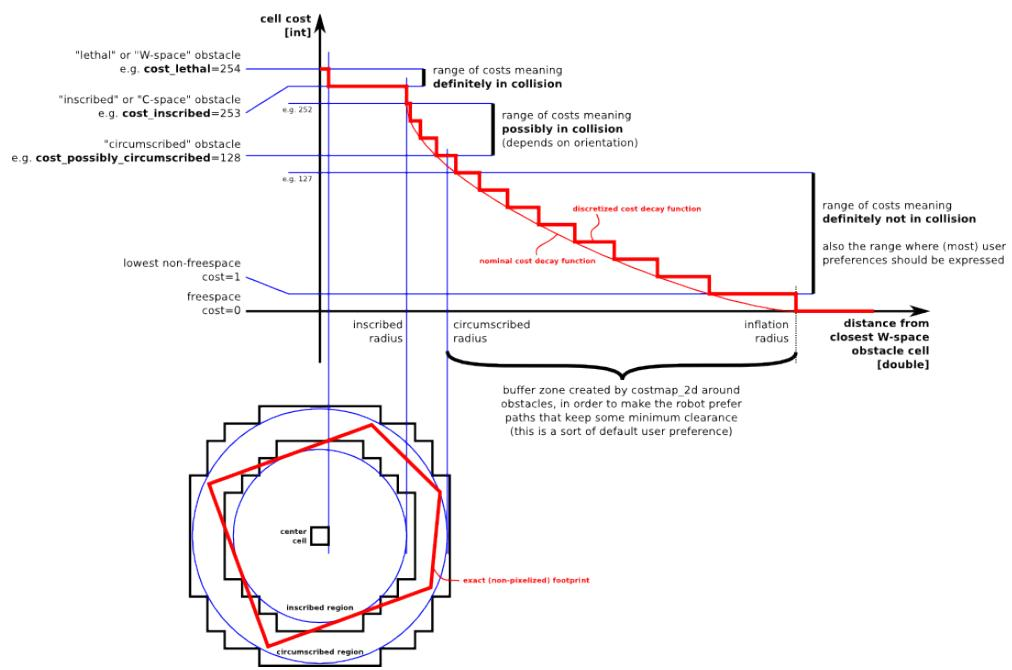

Figure 10.1: CostMap Valuation Diagram (Source: [http://wiki.ros.org/costmap\\_2d](http://wiki.ros.org/costmap_2d))
- Explain the following diagram (see Figure 10.1).